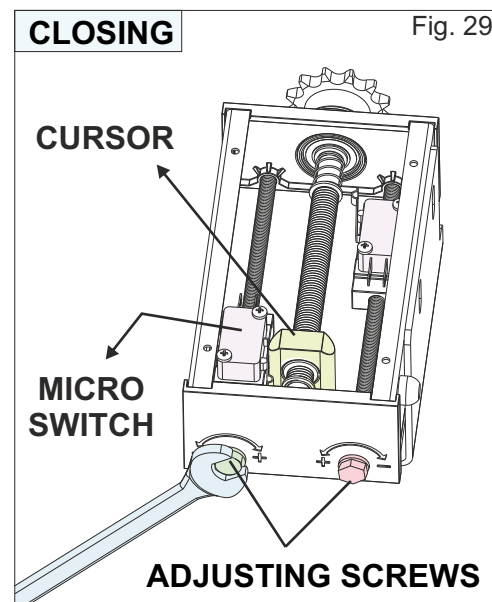

Fig. 29
- act on the adjusting screw so that the cursor can activate the contact on the microswitch (Fig. 29)